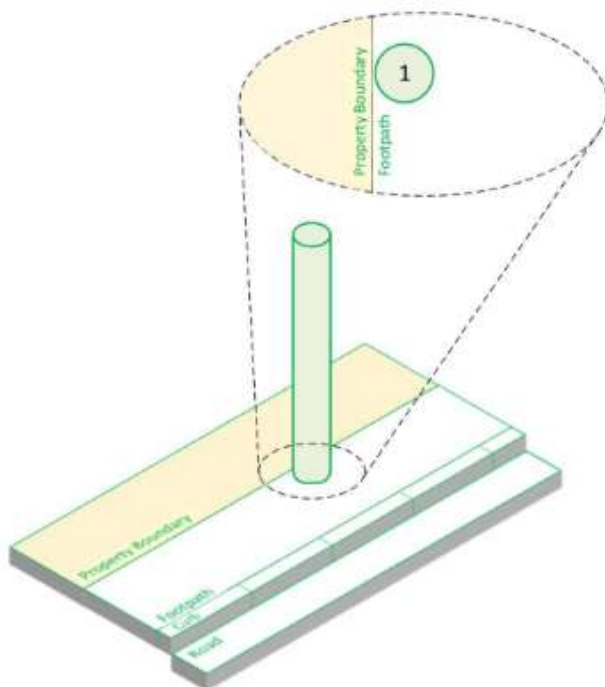

Figure 3 - Pole Siting at Property Boundary (preferred)
- The preferred position for installation is on the property boundary side of the footway (see Figure 3 - Pole Siting at Property Boundary (preferred))